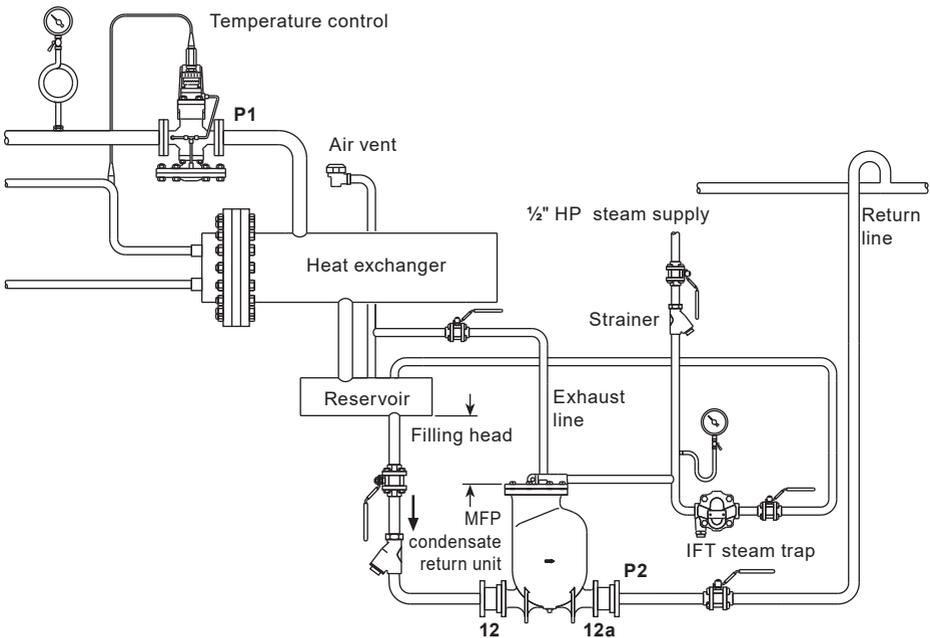

Fig. 6
1. Install the return unit below the equipment being drained with the exhaust connection vertically upwards. The return unit should be installed with the recommended filling head (vertical distance between the top of the return unit and the bottom of the reservoir/receiver), see Section 3.2 and Figs. 6 and 7. For other filling head variants, refer to separate capacity chart.
2. To prevent equipment flooding during the return unit discharge stroke, a vented receiver or reservoir pipe should be installed in a horizontal plane ahead of the return unit as shown in Fig. 6. For proper receiver/reservoir sizing refer to Tables 1 and 2 on pages 20 and 21. All inlet fittings must be full bore.
3. Connect the check valves (12) and (12a) to the return unit, making sure that the flow through the valves is in the correct direction. For best performance, horizontal piping runs immediately ahead of the inlet check valve and after the discharge check valve should be kept to a minimum. Connect the discharge to the return main or other return point.